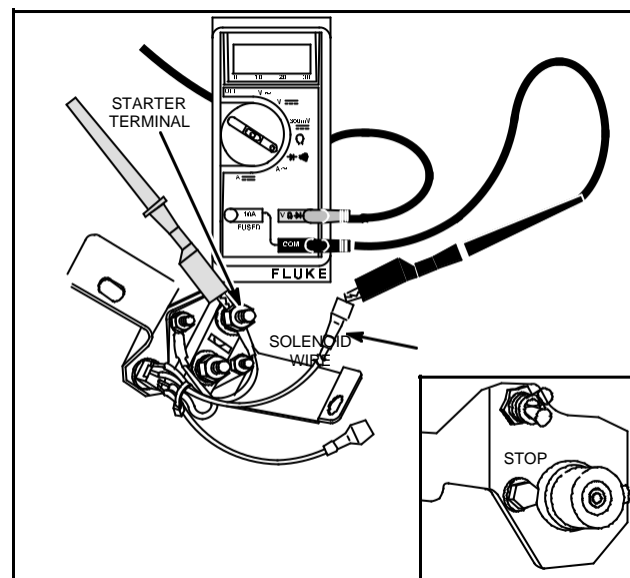

Fig. 34 – Checking Stop Switch
2. Connect one meter test lead to carburetor solenoid wire terminal and other lead to starter switch terminal, Fig. 34.